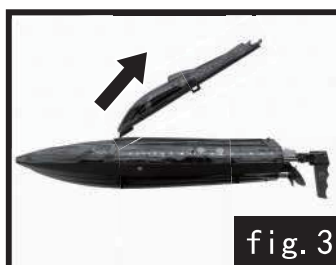

fig. 3
2. Open the cabin cover, fig. 3.
3.Pull the plastic water hose out from the cooling tube on the motor,fig.3.